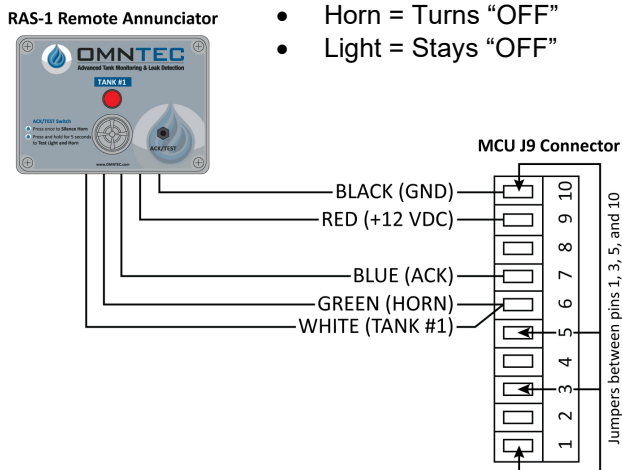

Figure 2.3.1
A. Common High-Level Alarm Wiring (refer to Figure 2.3.1 and Table 2.3.1)